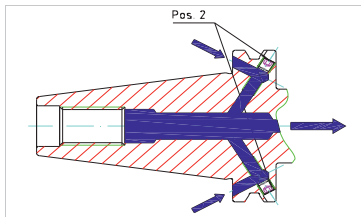

Fig. 15: Coolant Supply **Form AF/JF**
5. Screw the threaded pins with medium-strength thread locking compound (adhesive) into the cooled tool holder at "Pos. 2" (see *Fig. 15: Coolant Supply Form AF/JF*).